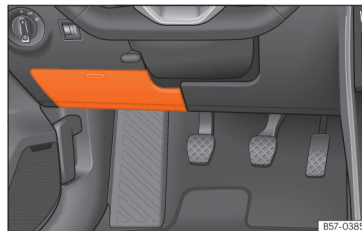

Fig. 49 Left hand drive vehicles: fuse box cover under the driver's side dashboard
- *Open*: fold the cover down » **Fig. 49**.